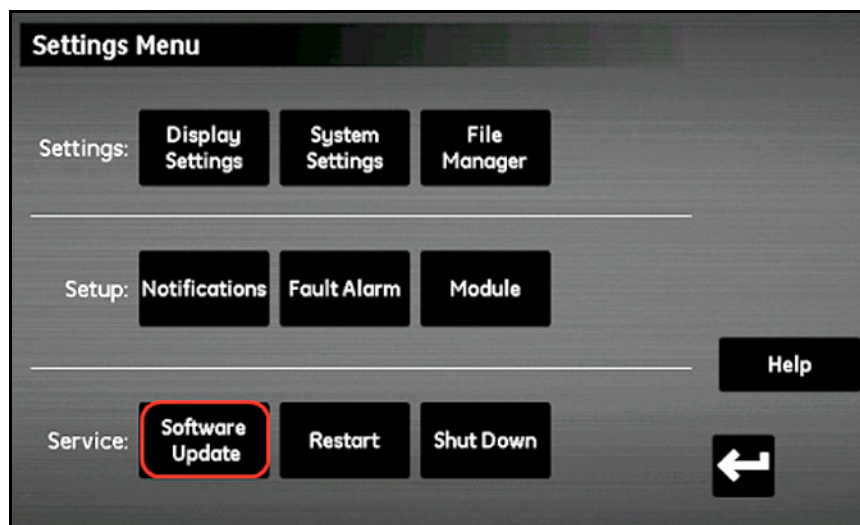

Figure 87: Software Update
5. In the **Service** section (see Figure 87 below), tap the **Software Update** button. If the **Software Update** button is grayed out, check to ensure that the USB flash drive is properly plugged into the USB port.